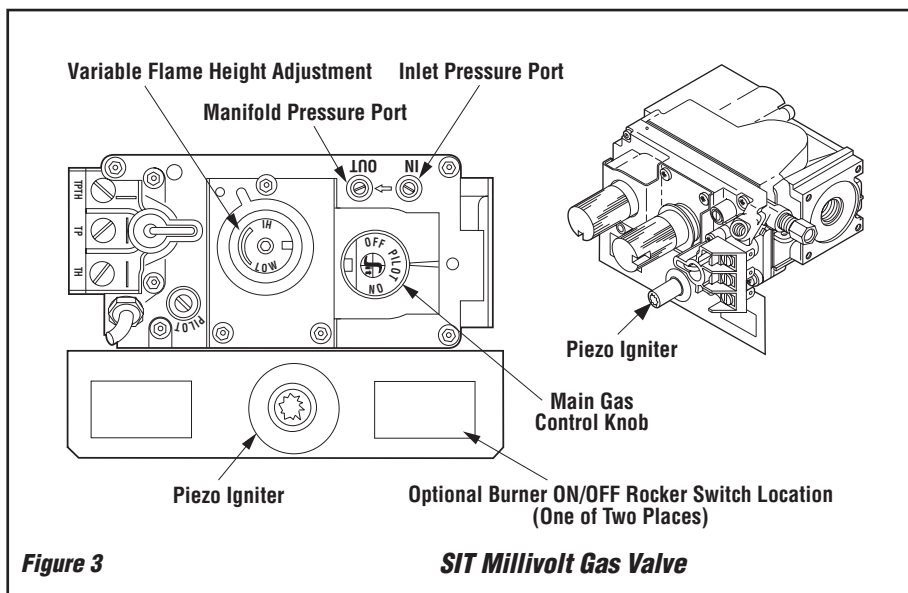

Figure 3
Millivolt appliances will be fitted with the gas control valve shown in *Figure 3 on Page 4*.
To light millivolt appliances refer to the detailed lighting instructions found on *Page 18 (English) and Page 19 (French)*. **Millivolt appliance lighting instructions may also be found on the pull-out lighting instruction labels attached to the gas control valve.** Refer to *Figure 3 on Page 4* for the location of the piezo igniter.
1. All Millivolt appliances are equipped with a variable gas control valve. Flame height for these models may be adjusted through a range between fixed low and high settings, alternately, while the appliance is in operation. Adjust the flame height as desired after lighting the appliance by rotating the variable adjustment control knob located on the front of the valve (*refer to Figure 3*).